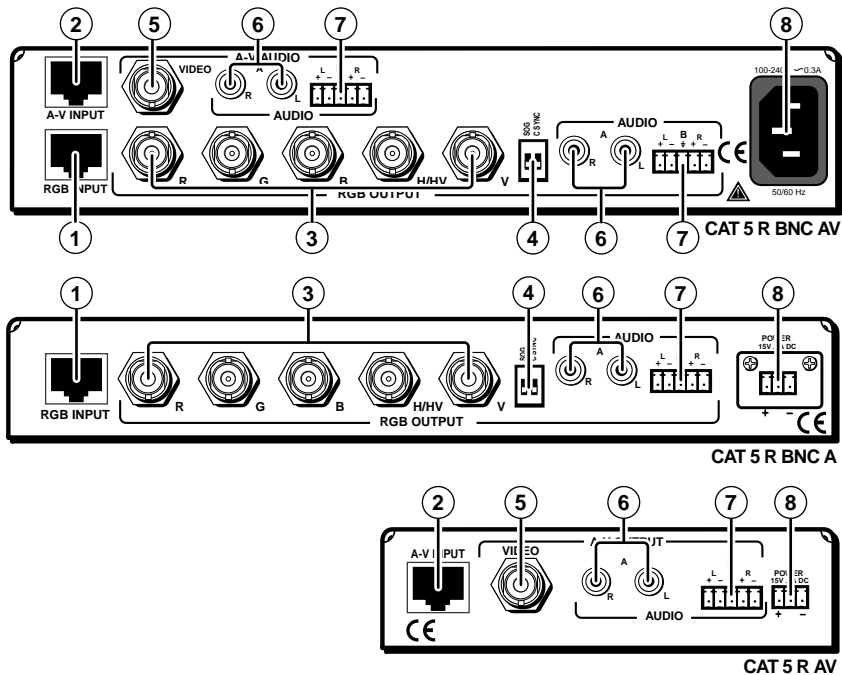

Figure 2-2 — Installation features, CAT 5 receivers
- ① **RGB video transmission connector** — Attach one end of a CAT 5 UTP cable to this RJ-45 female connector (figure 2-2). Attach the other end to an Extron CAT 5 15HD or BNC transmitter.